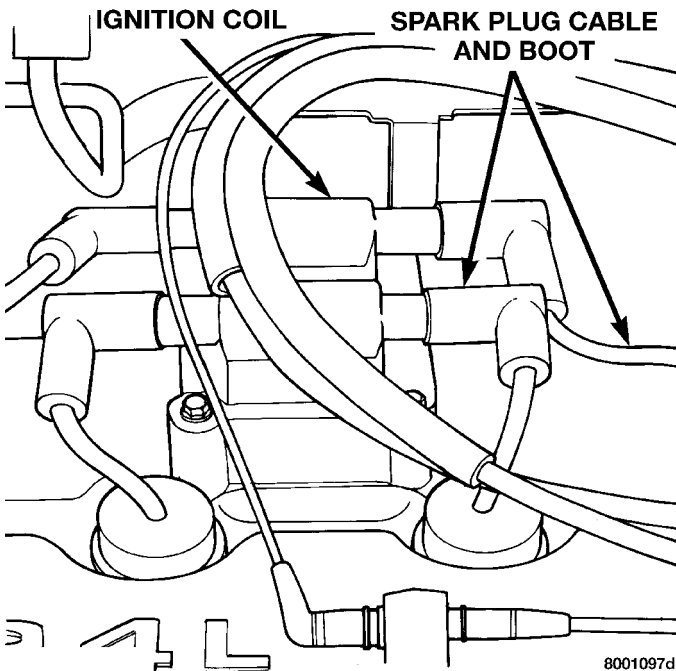

Fig. 7 Ignition Coil Removal
(1) Remove spark plug cables from coil (Fig. 7). Always twist the coil boots to break the seal with the coil and pull straight back on the boot.
(2) Remove ignition coil electrical connector.
(3) Remove ignition coil mounting bolts, throttle cable bracket or clip.
(4) Remove ignition coil.